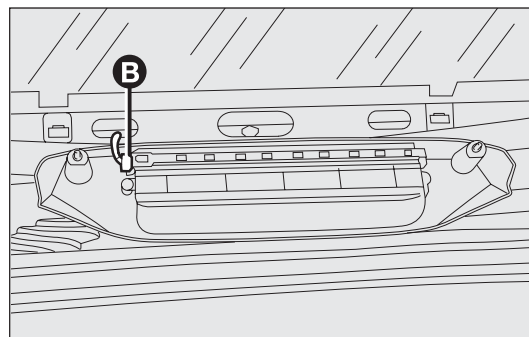

fig. 159
- ☐ disconnect the connector B-fig. 159 and remove the light unit;